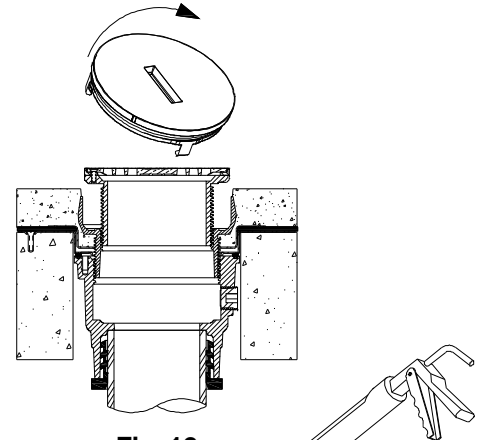

Fig. 12
12. Remove rough-in cover. See Fig. 12